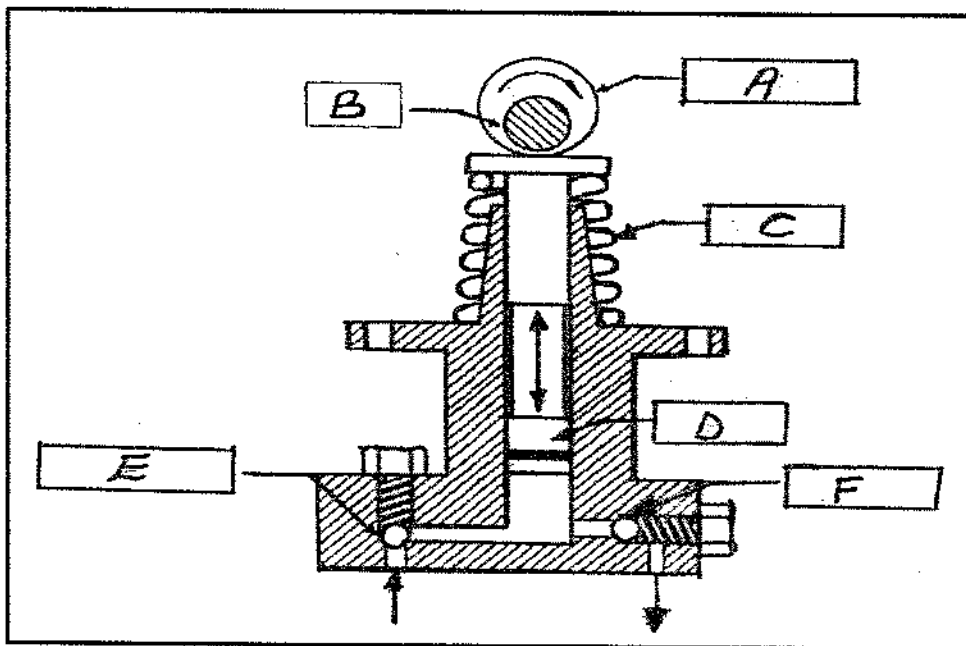

FIGURE 3
- 3.4 FIGURE 3 below, shows the section plunger-type oil pump. Name the parts by writing the answer next to the letter (A–F) in the ANSWER BOOK.